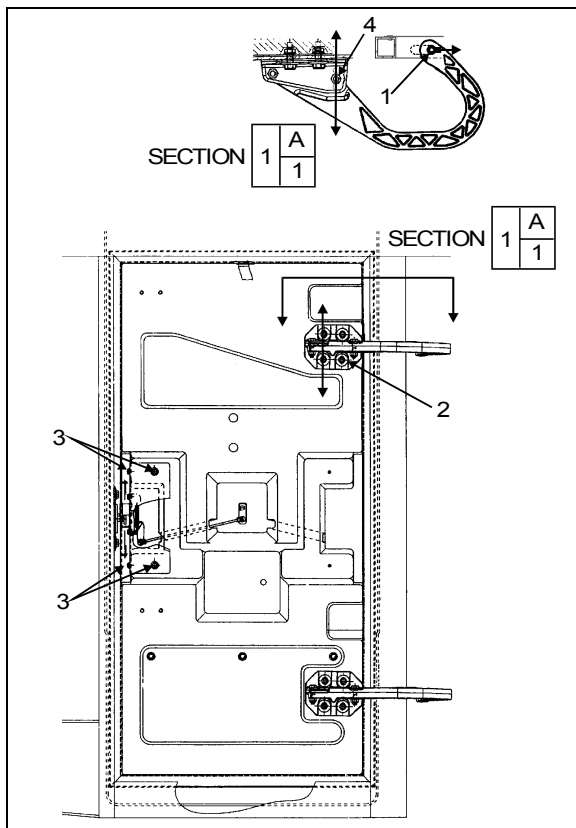

FIGURE 63: REAR ELECTRICAL COMP. DOOR
1. Loosen nut (1, Fig. 63).
3. Tighten nut (1, Fig. 63).
4. Loosen nut (4, Fig. 63).
7. Loosen screws (2, Fig. 63). Screws allows the door to be shifted "UP or DOWN".